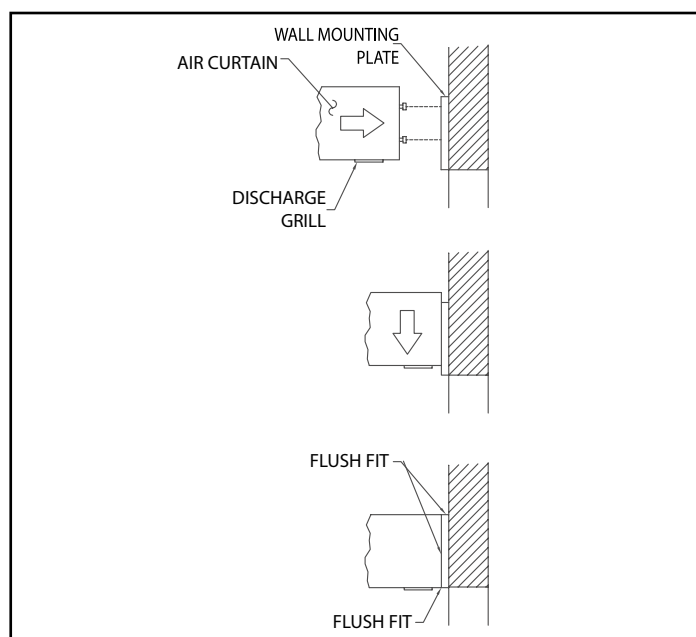

FIGURE 4 - Mounting to Wall Plate
1. Raise the air curtain with the discharge opening facing down toward the floor. While holding the unit level, slide the heads of the shoulder bolts into the larger hole of the key-hole slots of the mounting plate. **See Figure 4.**
3. After the unit is securely attached to the mounting plate, re-install the two (2) locking screws at the bottom corners.